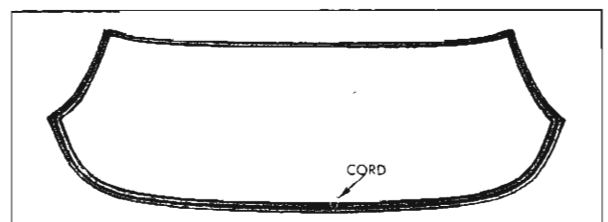

Fig. 11-11 Windshield Installation
4. Insert a strong cord in pinchweld cavity of rubber channel completely around windshield. Tie ends of cord and tape to inside surface of glass at bottom center of glass (Fig. 11-11).